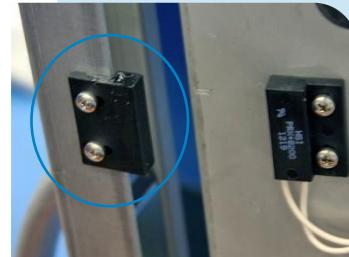

Figure 5. Install Magnetic Actuator
- Attach the Magnetic Actuator to the Front Door using the two M3 x 6-mm screws (Figure 5).